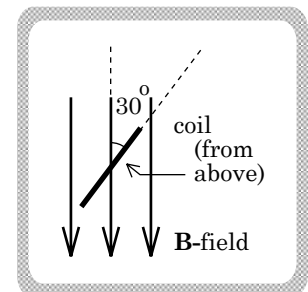

FIGURE 17.5
f.) Example of a simple flux calculation: Determine the magnetic flux through the coil depicted in Figure 17.5 (the sketch shows a circular coil FROM ABOVE). Assume that the magnetic field intensity is .02 teslas, the coil's radius is .3 meters, and the angle between the hoop *itself* and the magnetic field is 30° (see sketch).